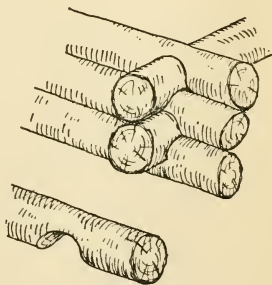

FIG. 191.—The Lock-joint.
**The Lock-joint.**—As shown in Fig. 191, a notch is cut in the logs twelve inches from each end, so the surfaces of the logs will be brought together when the ends are fitted over one another, as shown in the drawing.